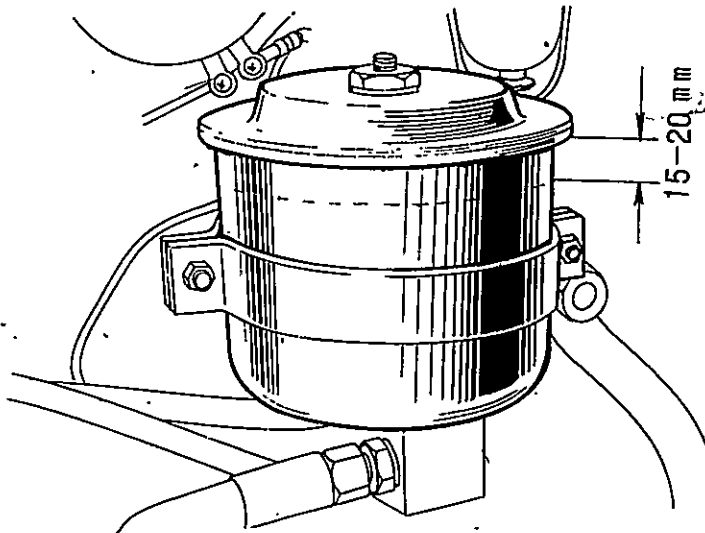

Fig. 3-5 Checking the oil level in the oil container of power steering.
- b. Open the oil container of the power steering and check the oil level is 15~20 mm lower than the mouth of the container (with the power steering cylinder full of the oil). (see Fig. 3-5)